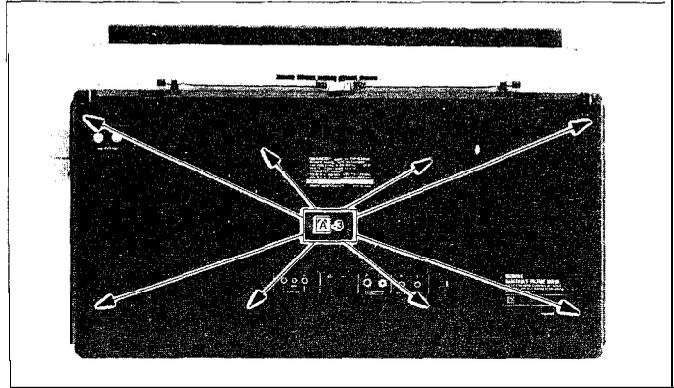

Figure 2
- A FRONT CABINET REMOVAL** (Refer to Figures 2 and 3)
3. Remove eight (8) screws retaining the front cabinet.
4. Gently pull out the front cabinet and disconnect four (4) tips (Speaker) connected to the main P.W. board.